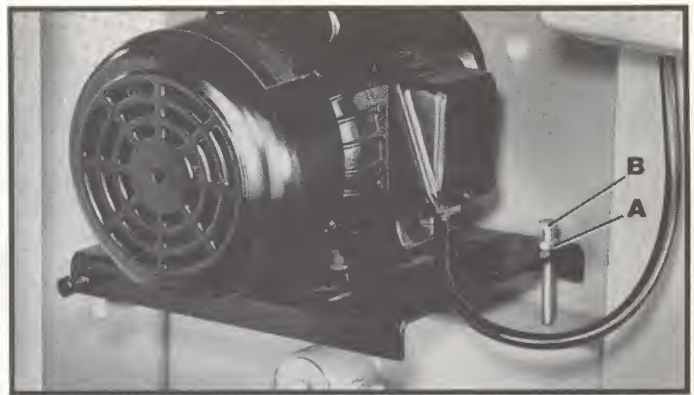

Fig. 27
If it ever becomes necessary to adjust the belt tension on your machine, loosen lock nut (A) Fig. 27, and turn adjusting screw (B) in or out. Turning screw (B) clockwise increases tension and turning screw (B) counterclockwise decreases tension. Tighten locknut (A) after tension has been adjusted.